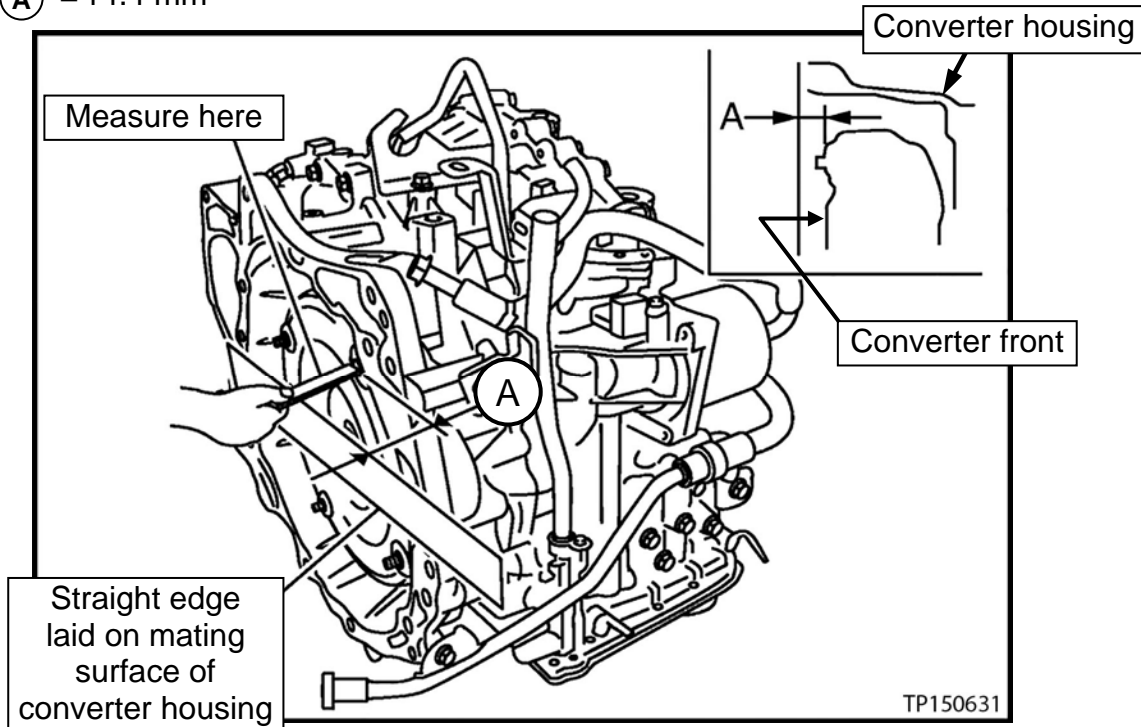

Figure 187
- Verify the torque converter is installed at the proper depth (Figure 187).